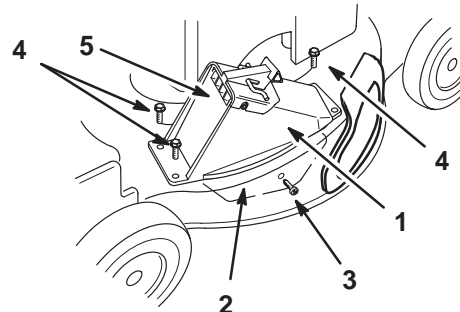

Figure 35
1. Grommet (4)
7. Insert the tongue of the discharge tunnel into the lawn mower (Fig. 35).
8. Align the holes in the tunnel with the grommets in the lawn mower (Fig. 35).
9. Ensure that the hole in the tongue aligns with the hole in the side of the lawn mower (Fig. 35).
10. Install the self-tapping plastite screw supplied with the grass catcher into the side hole and tongue, and partially tighten the screw (Fig. 35).
11. Using three screws supplied with the grass catcher, fasten the discharge tunnel to the lawn mower (Fig. 35).
- Open and close the tunnel door to ensure that it moves freely (Fig. 35).